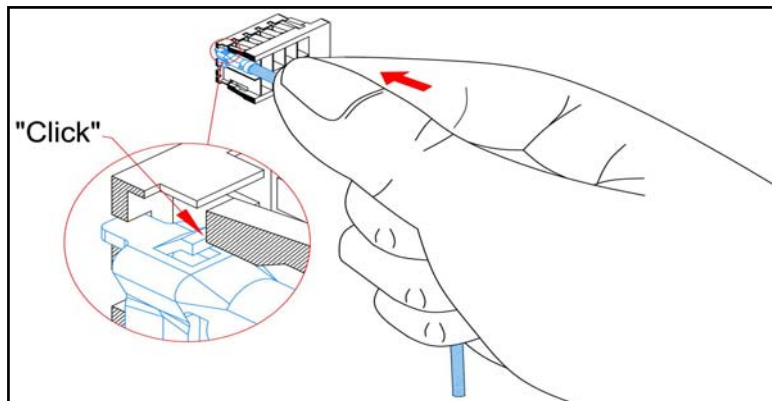

figure 1.2.1
- ※ These crimped contacts should be absolutely straight and, without the use of extreme force, inserted in one operation into the contact cavities until a “click” is audible. (300g~500g forces is recommended) (see figure 1.2.1)